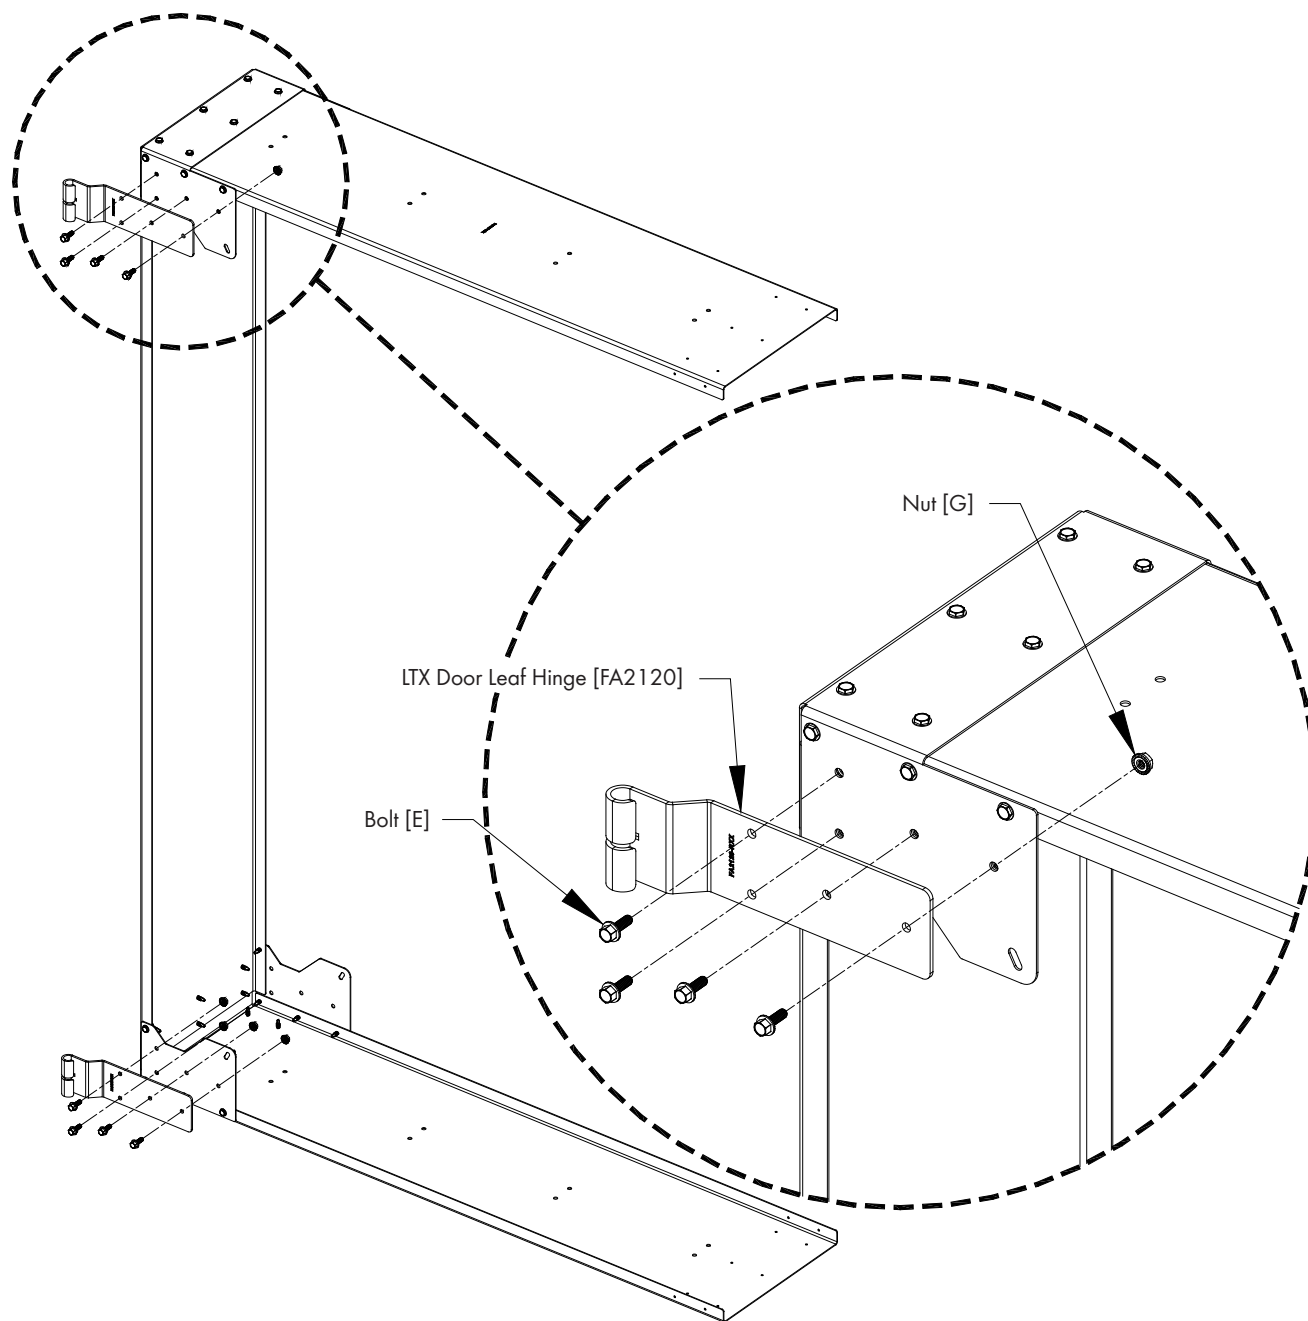

Figure 9
Attach (1) Leaf Hinge [FA2120] to Top Corner Cap and one to the Bottom Corner Cap assembled in the previous step using (4) Bolts [E] and Nuts [G]. *See Figure 9.*